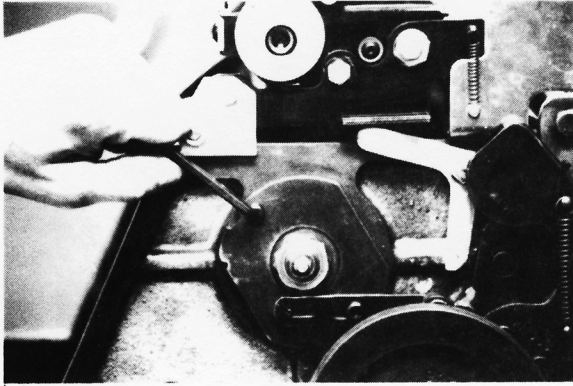

Fig. 1
6. Remove Allen head screw from the non-operator side to allow easier access to first lock nut. (Fig. 1)
10. Reinstall Allen head screw. (Fig. 1)